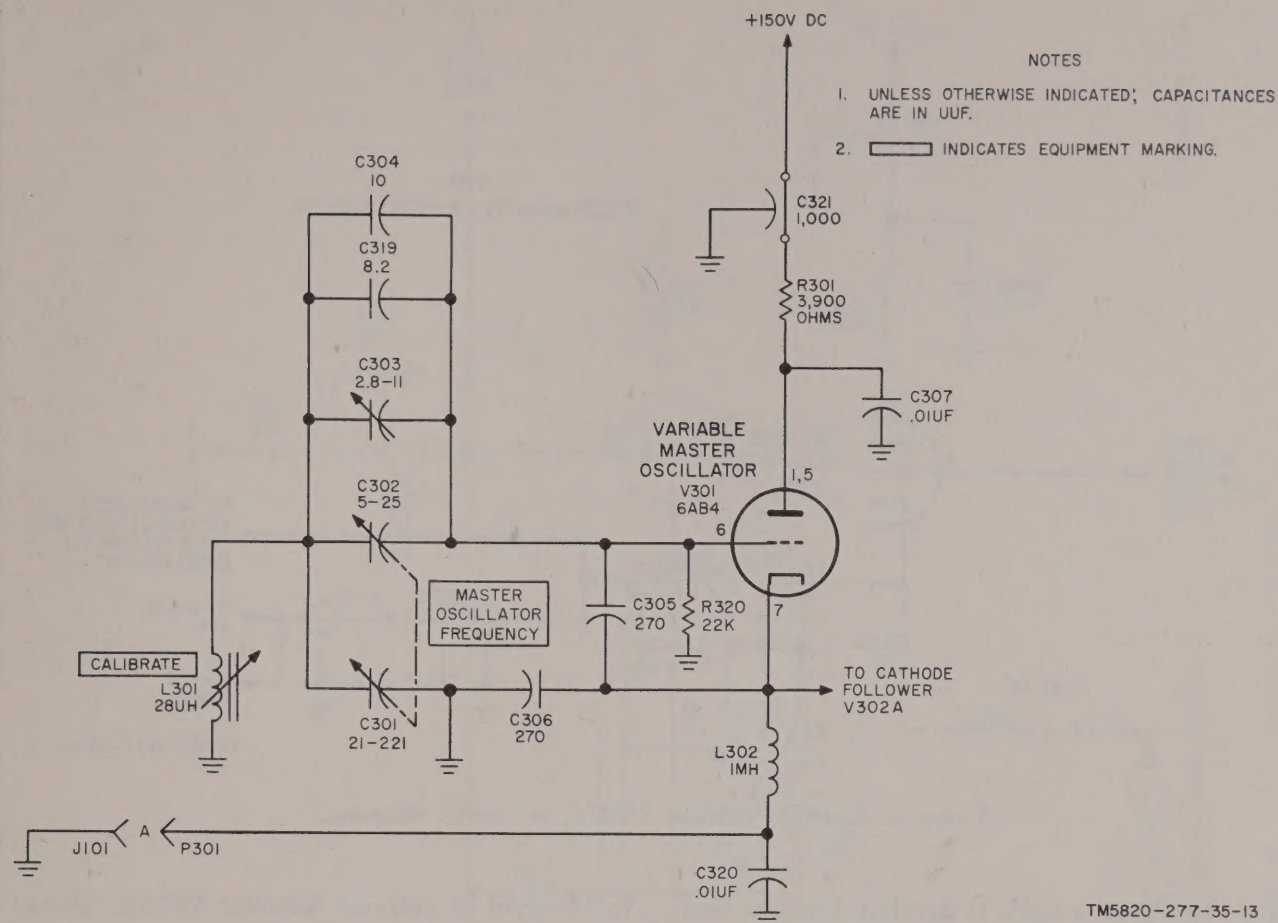

Figure 2. Variable master oscillator V301, schematic diagram.
3. Variable Master Oscillator V301 (fig. 2)